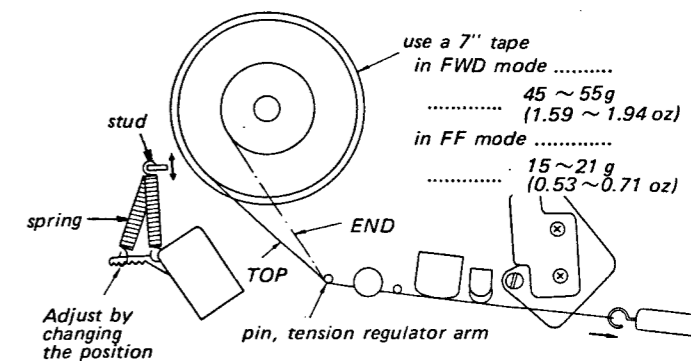

Fig. 8-5 Tension regulator back-tension adjustment
- (1) Make the tension regulator adjustment.
- (2) Adjust by changing the hooking position of the spring to obtain the specified values on the tension gauge at the beginning and the end of the tape as shown in Fig. 8-5. If it is not obtained the specified values, adjust by bending the stud or perform the tension regulator adjustment.